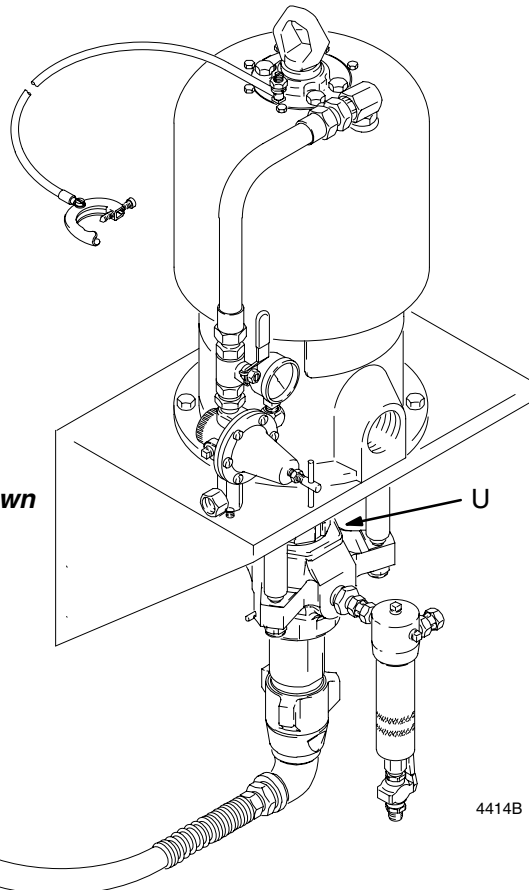

Fig. 7
Before starting, fill the packing nut (U) 1/3 full with Graco Throat Seal Liquid (TSL) or compatible solvent. See Fig. 7.